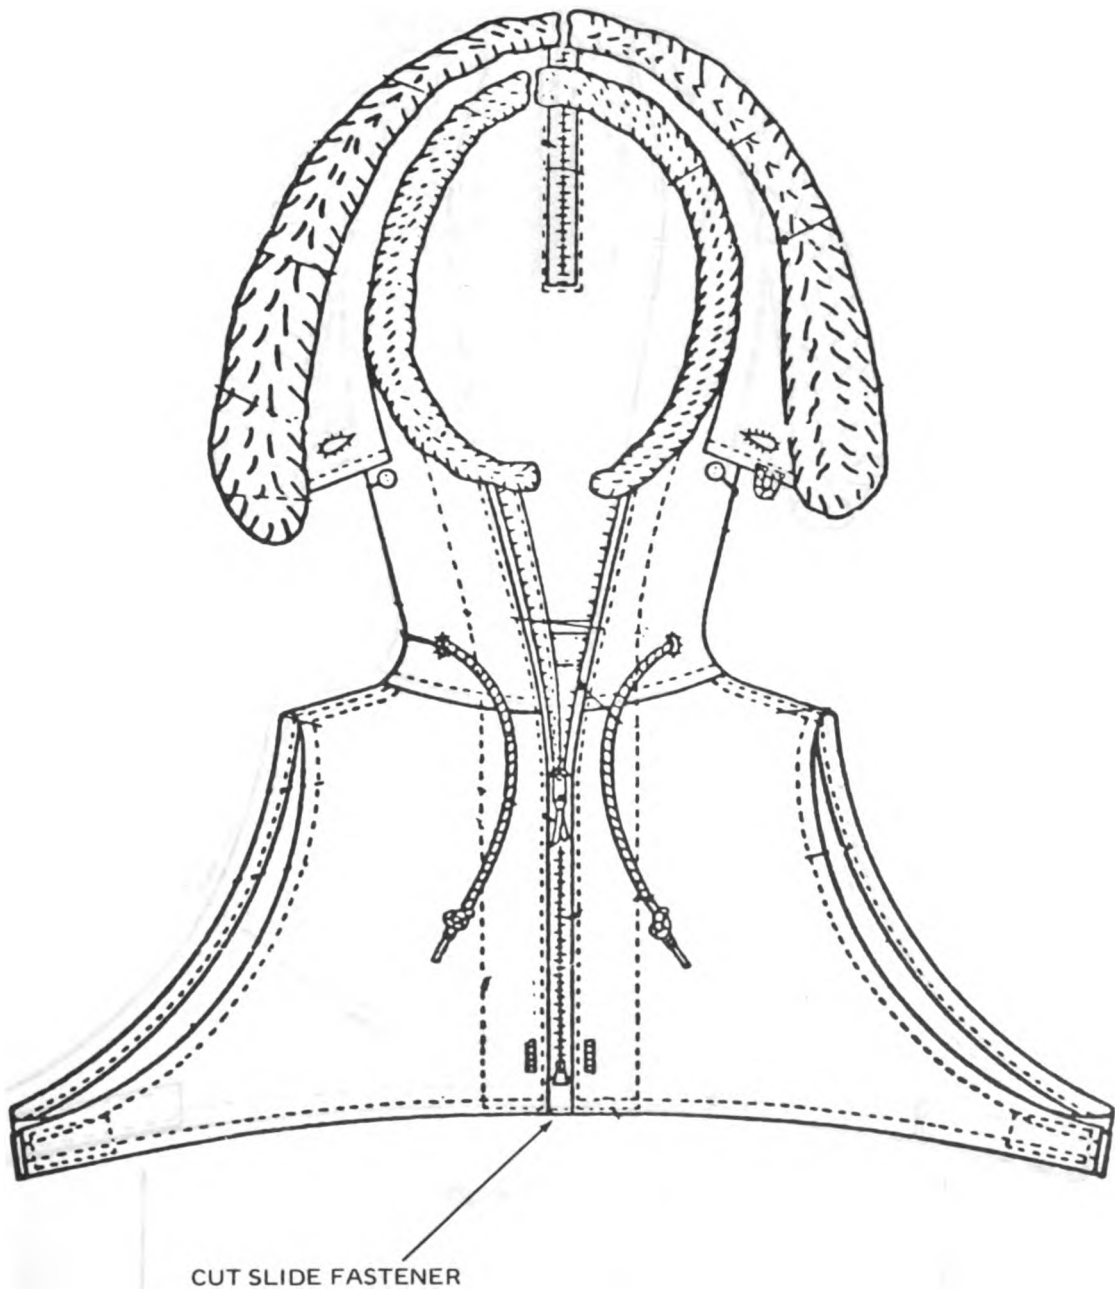

Figure 4-1. Hood, Front
a. Cut the slide fastener at the front opening off back to the joining seam. (See figure 4-1, front view.)